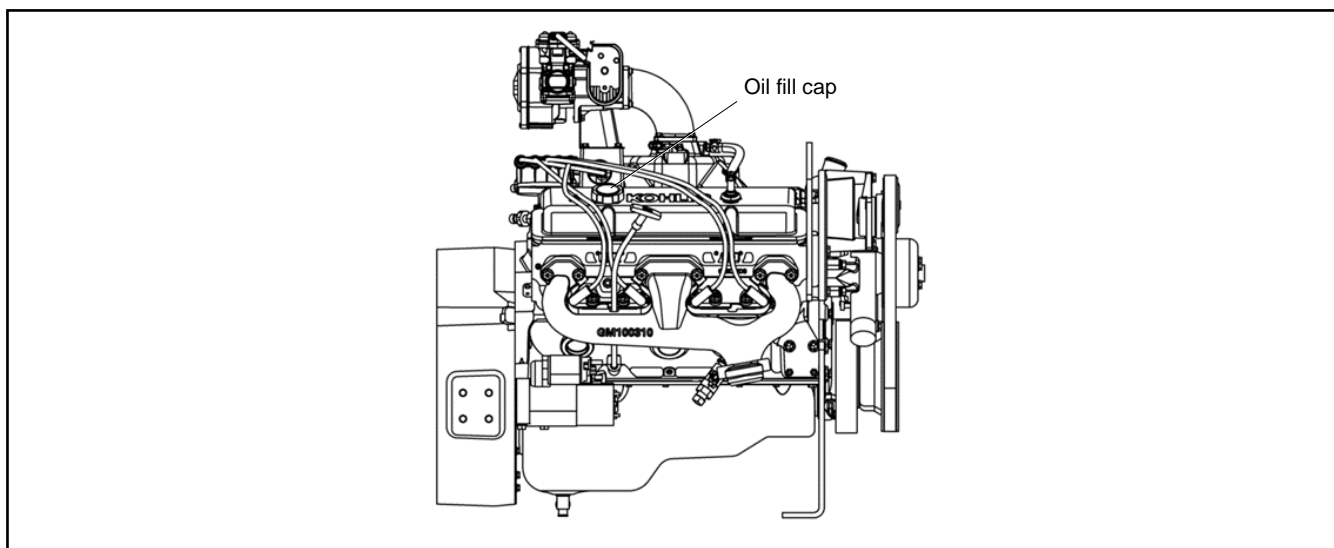

Figure 23 Oil Fill Cap
6. If the oil level is below the add mark, check for leaks. If no leaks are found, open the oil fill cap. Wipe the oil fill cap clean, and add oil up to the Full mark. See Figure 23.